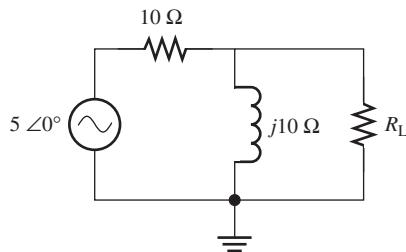

FIGURE P6.45 Circuit for Problem 6.45.
- 6.45** (A) Find the Thévenin and Norton equivalent circuits for the circuit shown in Figure P6.45, as seen by the load resistor, R_L .
- 6.75** (A) Replace the sinusoidal voltage source to the sinusoidal current that is $i_S(t) = 5 \cos(100t)$ in Figure P6.45, use PSPice to plot the Norton equivalent current flows through R_L .